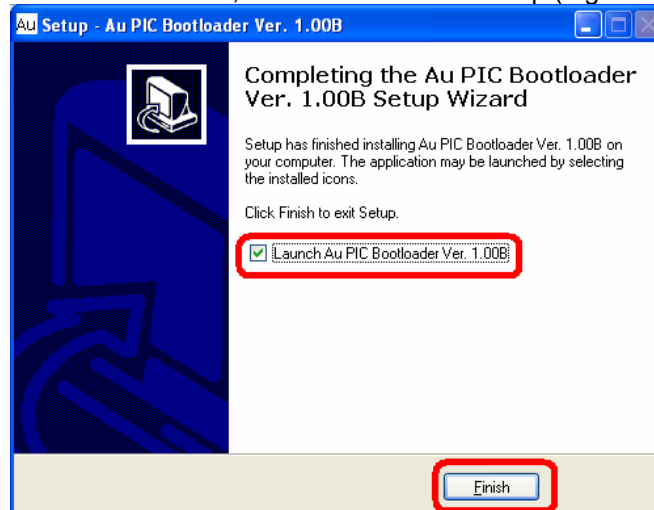

Figure 6-21
8. After a few seconds, A “Completing the Au PIC Boot-loader Setup Wizard” window will pop up, check “Launch Au PIC Boot-loader Ver. 1.00B”, click “Finish” to exit setup (Figure 6-21).